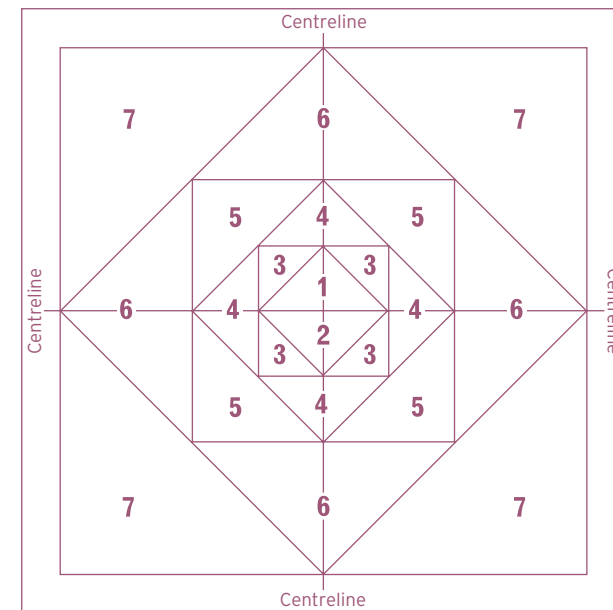

Figure 4.11 Continue working in larger pyramids
- ▶ Repeat this sequence on the opposite side of the centreline shown as area 2 in figure 4.11. Continue working in larger and larger pyramids, as shown in figure 4.11, until only the perimeter tiles require fitting.